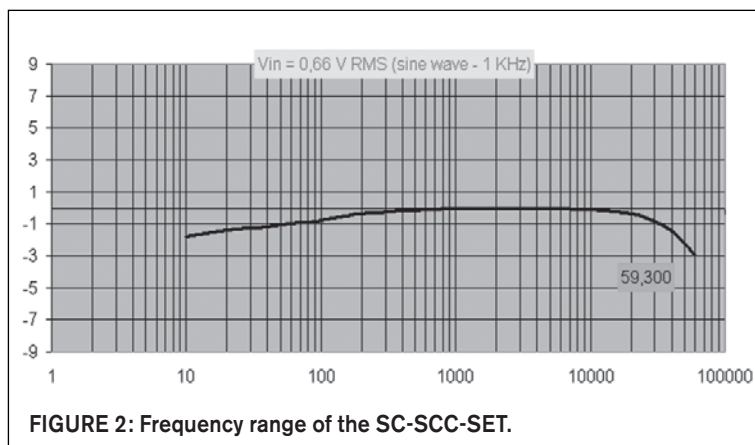

FIGURE 2: Frequency range of the SC-SCC-SET.
- extended bass range (as low as 5Hz at -3dB) with a very good high-frequency limit (**Fig. 2**)
The curve in **Fig. 2** pertains to a prototype of an amp that has been duplicated eight times by eight young students (13- to 15-years old) in Italy (**Photo 3**), under the supervision of my friend Antonio Tucci⁸. This result proves that, with this transformer, the SE topology compares favorably to the push-pull, still keeping its appreciable character.